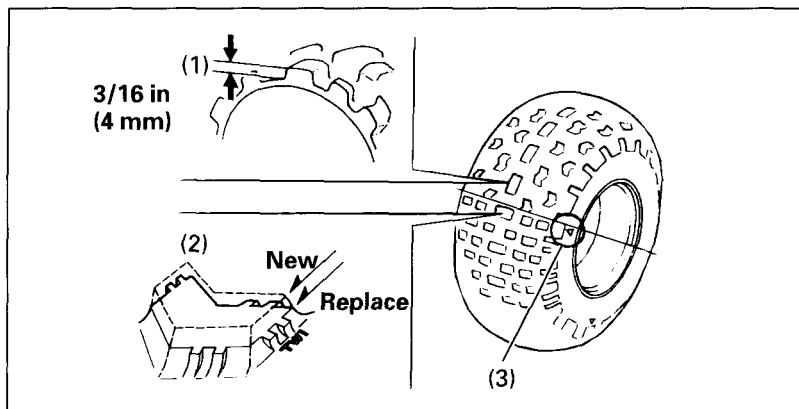

Fig. 4-34 (1) Groove depth
To check the condition of a tire tread, measure the groove depth (1) (Fig. 4-34) in the center of the tire, or check the wear indicator (2).